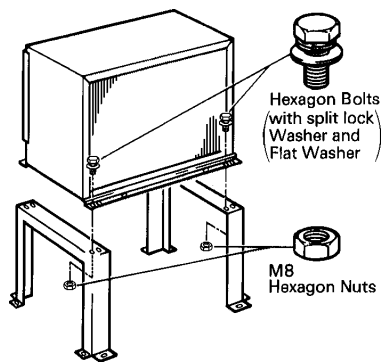

Fig. 8
- 1) Secure the Legs to the condenser unit with eight M8 x 16 mm Hexagon Bolts and M8 Nuts as shown in the illustration. See Fig. 8.